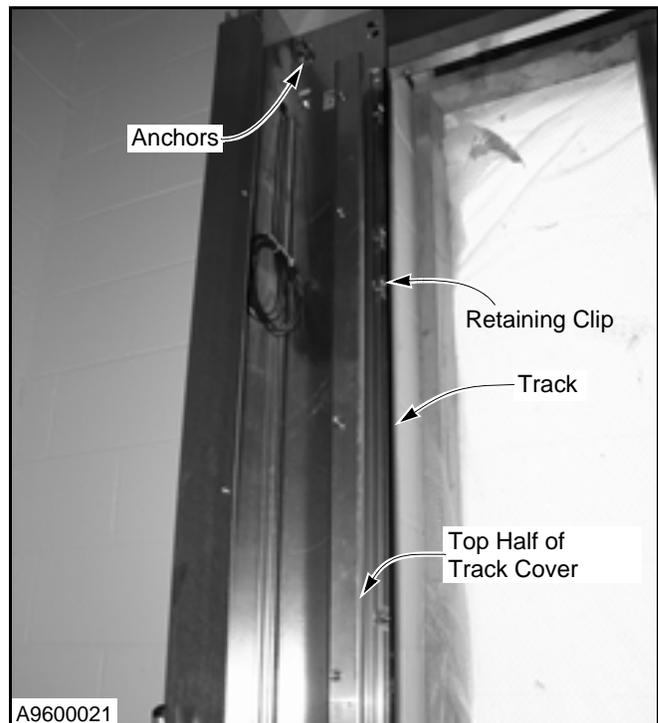

Figure 25
5. Inspect the hardware used to attach the vertical track sections to the left hand and right hand side columns. Tighten the hardware as required. Replace any missing or damaged hardware. (See Figure 25.)